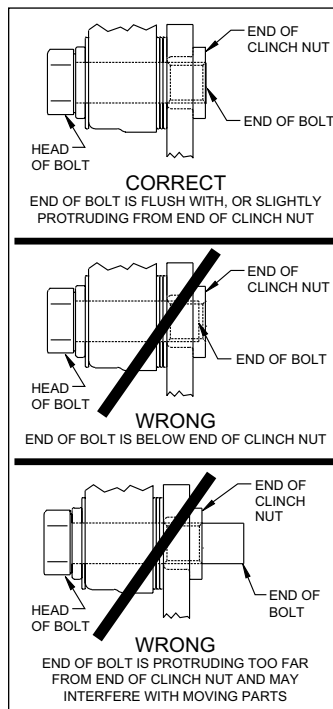

Figure 5. Clinch Nut Engagement Diagram
CAUTION: All mounting bolts must fully engage clinch nuts. Be sure to check that all bolts are either flush or protruding through flanged side of clinch nut after shimming, Figure 5.
clinch nut, as shown in Figure 5. If necessary place spare shims (12) between washer (11) and caliper mounting ear to achieve the proper clinch nut engagement. Once the caliper alignment and clinch nut engagement are correct, remove the bolts one